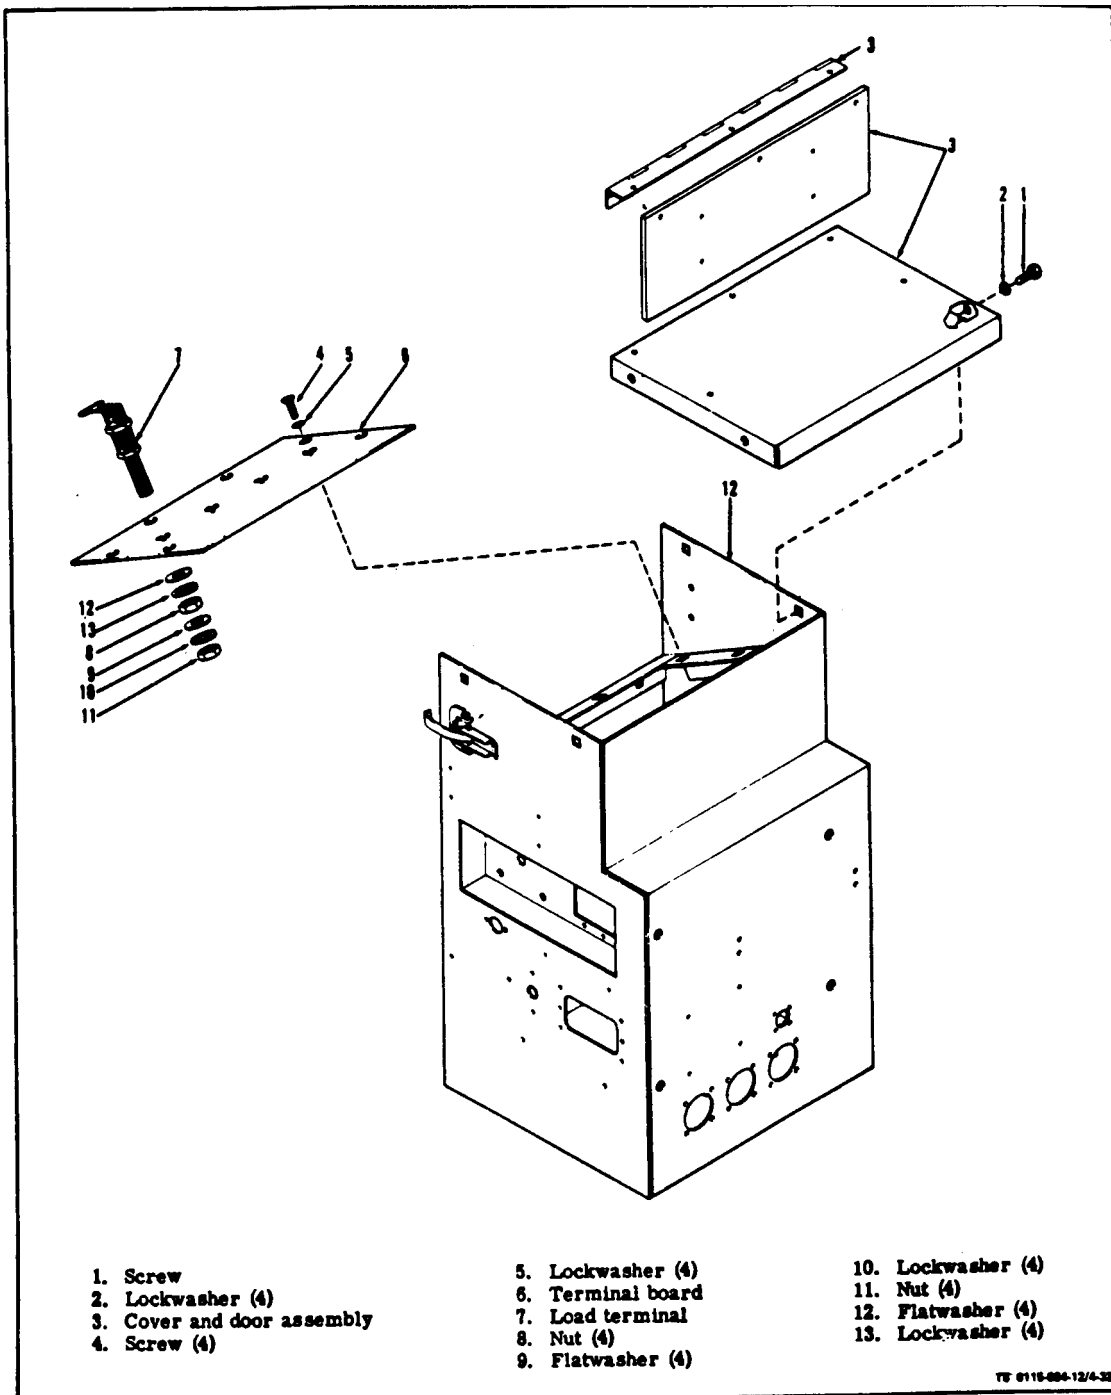

Figure 4-32. Load Terminal Board Assembly
a. Load Terminal Removal (see figure 4-32).
- (1) Unlatch door (3).
- (2) Remove screws (1), lockwasher (2), and cover and door assembly (3).
- (3) Remove screws (4) and lockwasher (5).
- (4) Carefully lift terminal board (6) and tag and disconnect leads from load terminals (7) by removing nut (11), lockwasher (10) and flatwasher (9).
- (5) Remove load terminal (7) from terminal board (6) by removing nut (8), flatwasher (12) and lockwasher (13).
b. Load Terminal Installation (see figure 4-32).
- (1) Install load terminal (7) to terminal board (6) by installing lockwasher (13), flatwasher (12) and nut (8).
- (2) Connect leads to terminals (7) by installing flatwashers (9), lockwashers (10) and nut (11).
- (3) Install lockwashers (5) and screws (4).
- (4) Install door assembly (3), lockwashers (2) and screws(1).